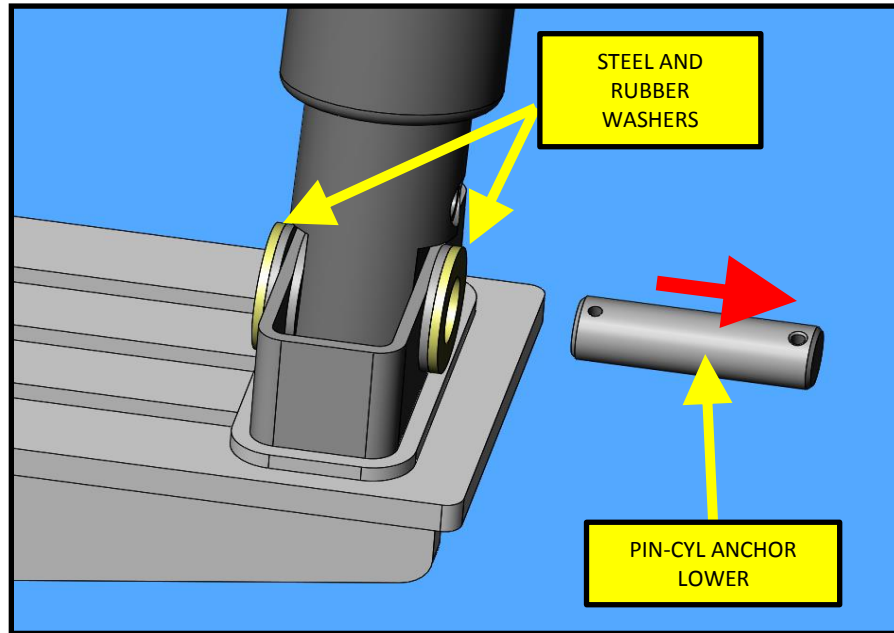

FIG. 15-1
25. Slide out lower pin and remove all steel and rubber washers and properly dispose of. Refer to Fig 15-1.